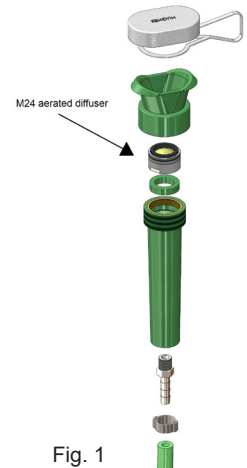

Fig. 1
- No sealants are required when refitting (M24 Aerator 01 03 075 0061 – see fig. 1)